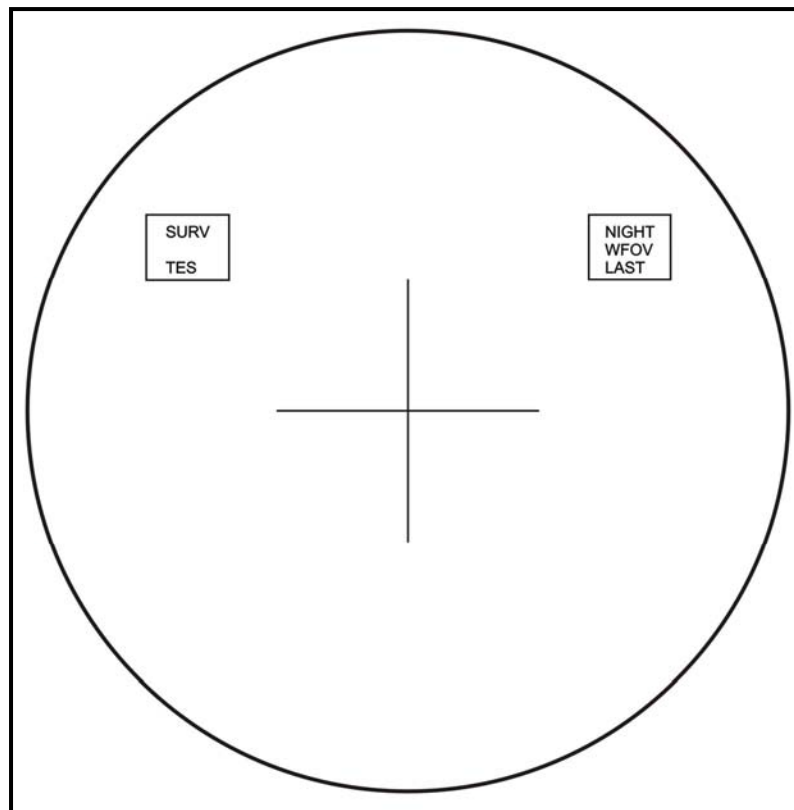

Figure 2-42. TES display.
- TOW2A or TOW2B will initiate TES, remove TES menu, and cause TES to appear in the mode box (Figure 2-42).